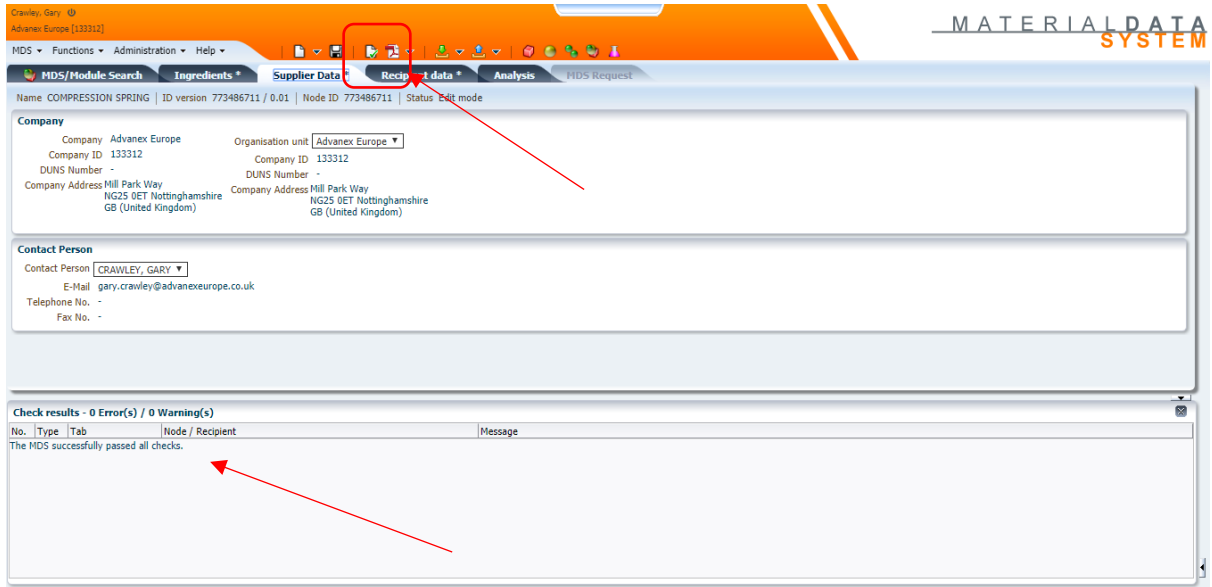

Fig.8
12. Click the 'Execute check' icon. This will show any outstanding actions required to finish MDS. (Fig8)